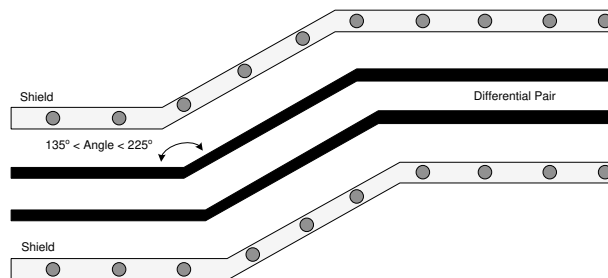

図 9-13. FPD-Link Routing Example
- Ensure that the bend angles associated with the differential signal pairs are between 135° and 225° (See 図 9-13).